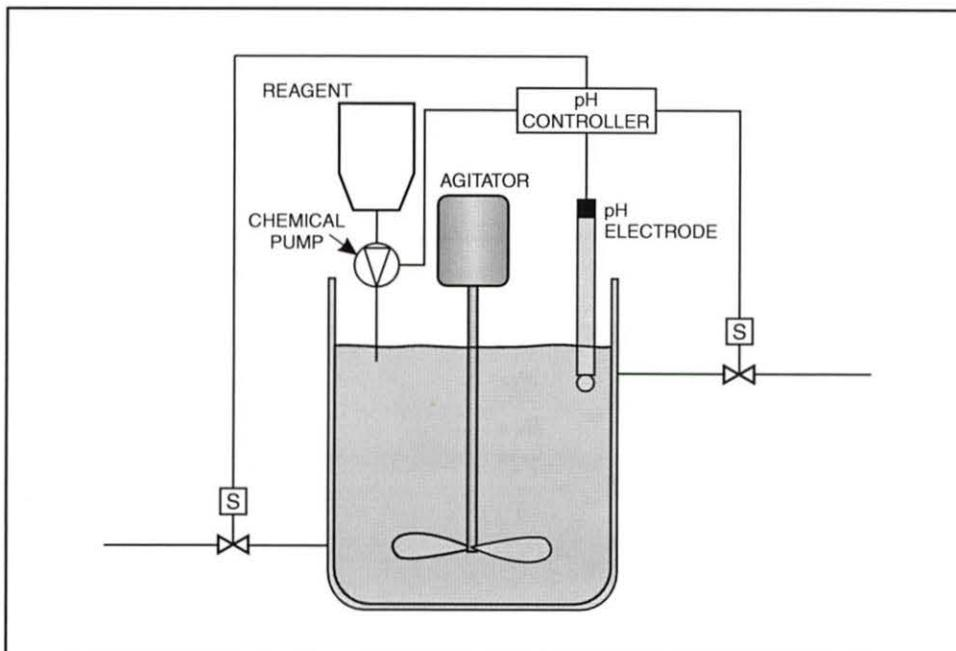

Figure 6. pH Electrode with a Range of 0 to 14 pH
- 1. Determine the resolution of the pH electrode in figure 6 given the following information: